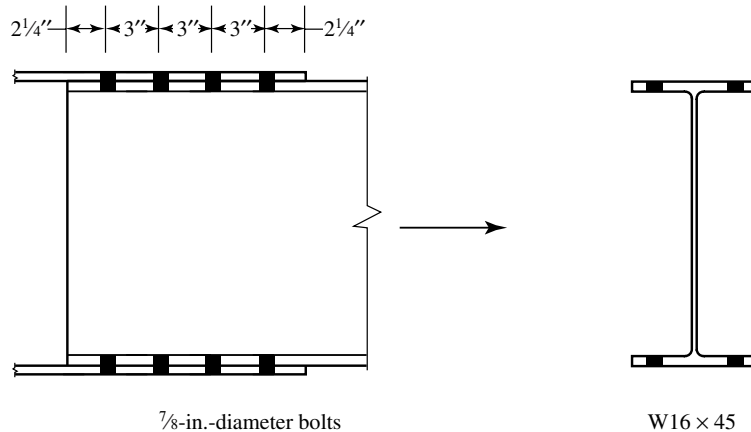

FIGURE P3.3-5
3.3-5 A W16 × 45 of A992 steel is connected to a plate at each flange as shown in Figure P3.3-5. Determine the nominal strength *based on the net section* as follows: